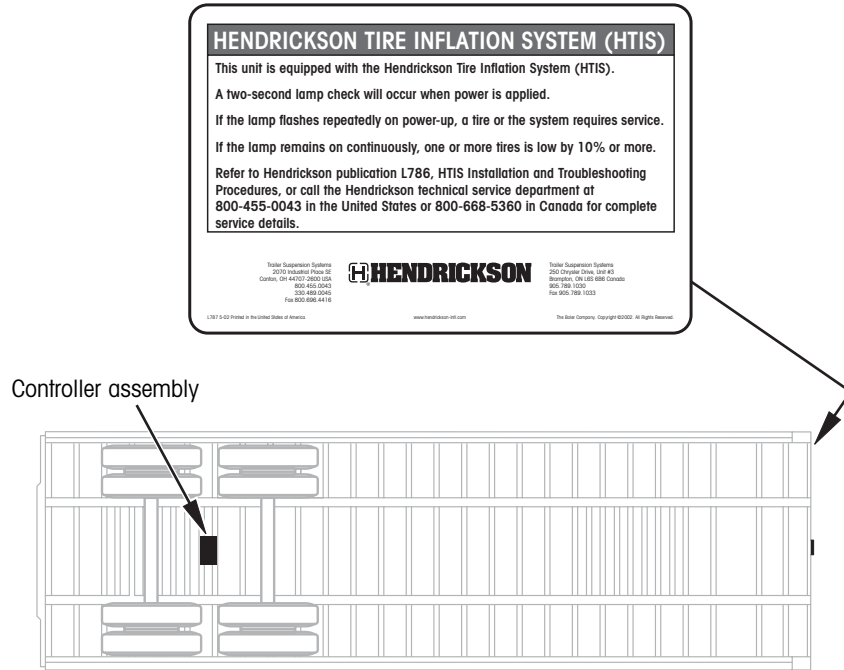

Figure 25. Recommended controller assembly mounting location and label placements
1. Install decal L787 at the front of the trailer near the warning lamp (figure 25).